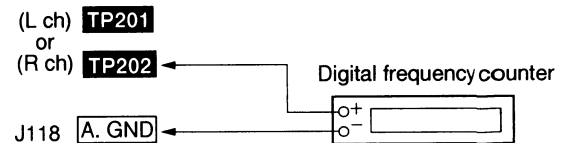

Fig. 4
1. Connect the measuring instrument as shown in Fig. 4.